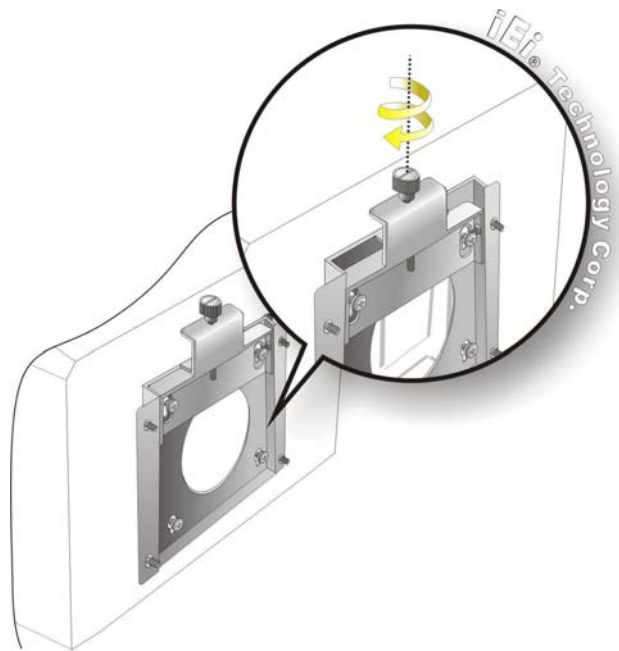

Figure 3-11: Secure the Panel PC
Step 9: Secure the panel PC by fastening the retention screw of the wall-mounting bracket. (Figure 3-11).